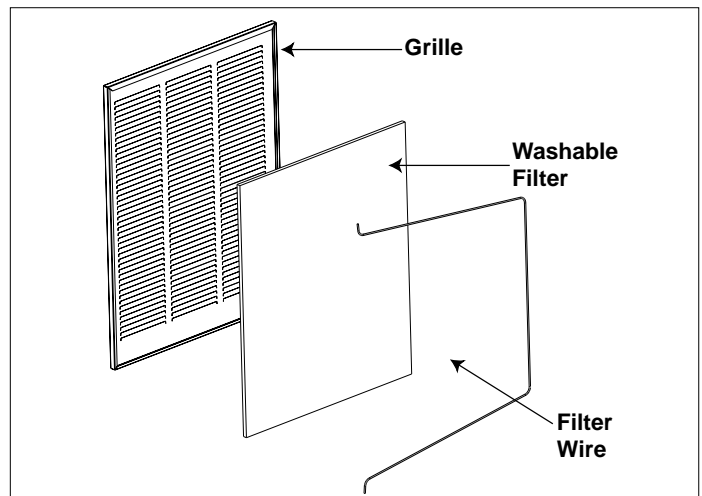

Figure 2.
6. Install the washable filter into the return air grille as shown in Figure 2.